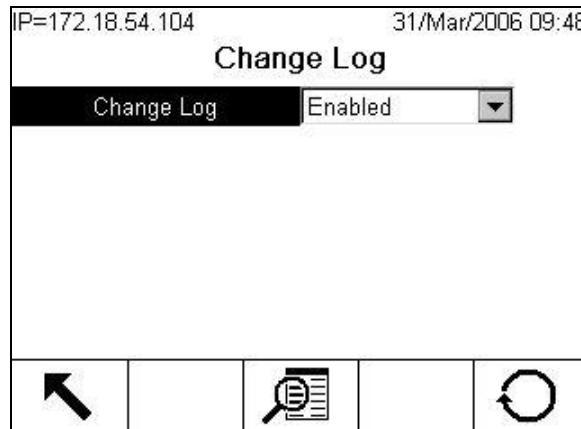

Figure C-29: Change Log Configuration Screen
The Change Log in the IND780 terminal file tracks all intentional changes to system configuration parameters. The Change Log can be enabled or disabled in Setup at Maintenance > Configure > Change Log. Figure C-29 shows the Change Log configuration screen.
1. Press the SETUP softkey  and select the Maintenance > Configure > Change Log node (see Figure C-29).